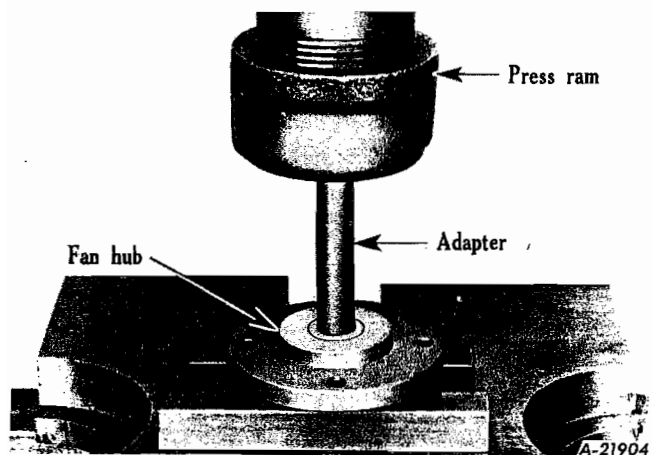

Fig. 36
5. Place shaft assembly in press and press fan hub from shaft (Fig. 36). Do not attempt to remove bearing or slinger, as they are factory installed on the shaft in the proper location.